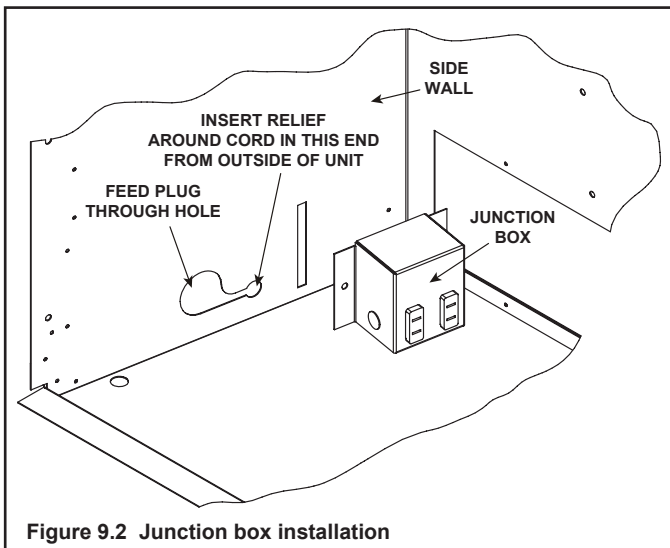

Figure 9.2 Junction box installation
- It is recommended that a 110 VAC junction box be connected for use with fan or remote control. (See Figure 9.2 for junction box wiring).